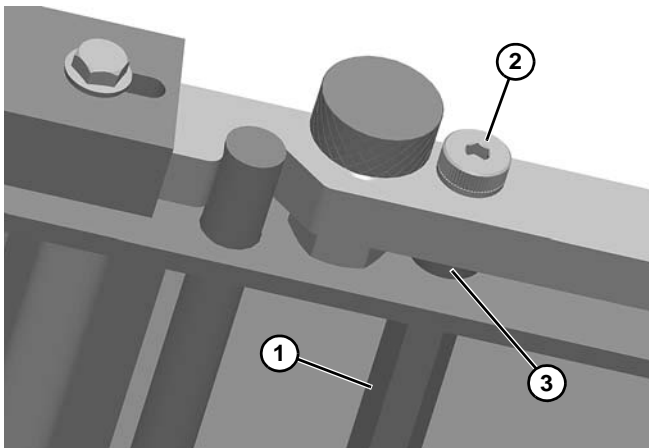

Figure 5
2. On one side of the conveyor, using a wrench to hold the hex bar (**Figure 5, item 1**) underneath, remove the shoulder screw (**Figure 5, item 2**) and spacer (**Figure 5, item 3**).